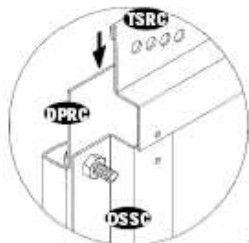
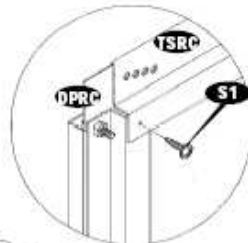

Fig.1
Fig.2
4. Assemble the door panel strip (TSRC) with door panel. Make sure the door panel top edge to be inserted into the (TSRC). See fig.1. Secure the (TSRC) to the (DSSC) with (S1) screws. See fig. 2. Secure the other end through the door panel to the (DSSC) with (S1) screws. See fig. 3.